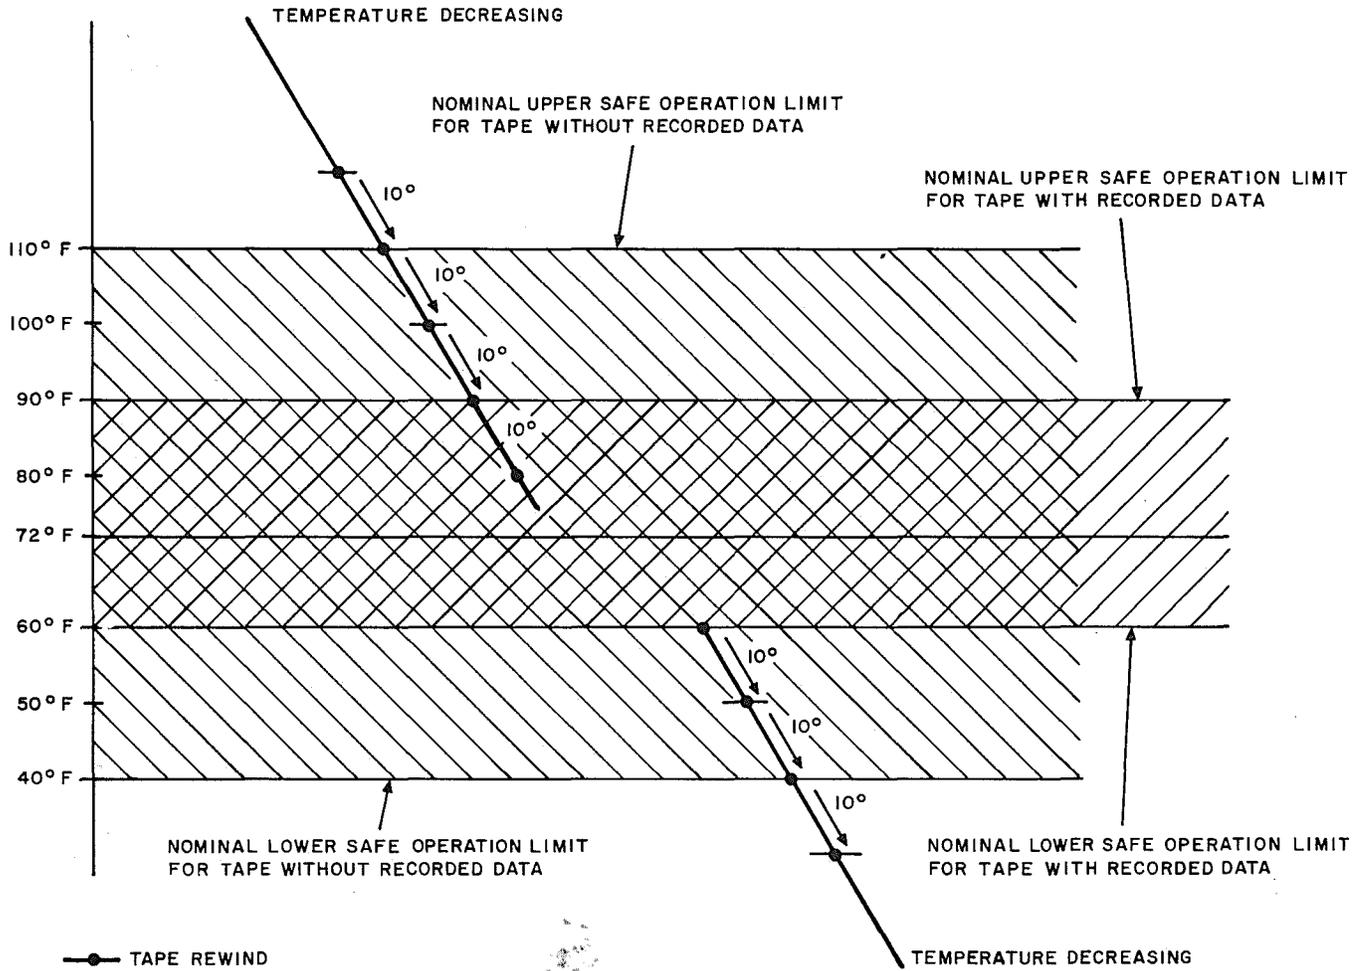

Fig. 10—Safe Operating Temperature Limits for Magnetic Tape
8.01 Tape Rewind: Magnetic tape exposed to high or low temperatures (5.01) beyond safe operating limits (Fig. 10) should be gently rewound at each 10-degree temperature decrease. Since magnetic tape expands as the tape pack temperature rises and contracts as the pack temperature decreases, the expansion (or slack) should be removed. Special handling is an essential for magnetic tape where temperatures have loosened the tape packing, and the tape packing moves so that the tape easily becomes damaged. Check EDP center for rewind procedures.
(a) **Rewind:** The tape should be rewound for each 10-degree decrease in temperature (Fig. 10). While the tape pack temperature is increasing, tape pack rewind is not necessary unless large excursions, such as 50°F, are expected because tape contraction is removed by rising temperature. The number of rewinds should
(a) **Rewind:** The tape should be rewound for each 10-degree temperature decrease until the pack temperature has returned to safe operation limits (Fig. 10). Rewind of the tape while temperature increases is not usually required unless excursions greater than 50°F are anticipated; then rewind near the tape-operating temperature. Tape pack firmness must be maintained to prevent tape-slip characteristics. Gentle handling of the tape, reel and/or canister, and tape rewind machine restrictions (8.02) is necessary to continue tape life as well as to permit unprocessed data retrieval.